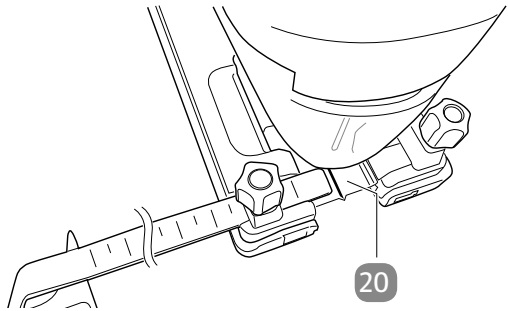

Fig. 1
3. Adjust the distance by positioning the desired number of centimetres on the parallel guide above the red line **20** (see **Fig. 1**).
- First, draw a line on the workpiece that you can use as a guide. The red line between the two locking screws (see **Fig. 1**) allows you to guide the saw along the line you have drawn and to precisely cut the workpiece.